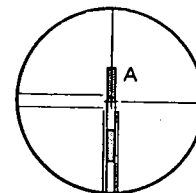

Fig. 22
- Guide the target A into the field of view. Tighten the lower clamp ⑬. Sight the target A with the lower fine motion ④. The target A is now in the direction of $0^{\circ}0'00''$, Fig. 22.